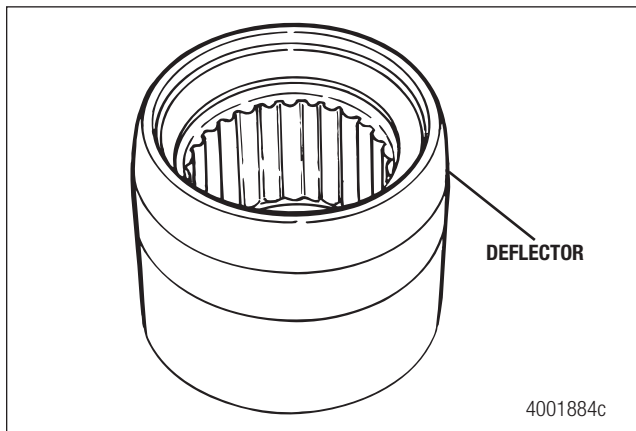

Figure 5.53
3. Verify that the plastic deflectors are attached to the round bushings. Figure 5.53.